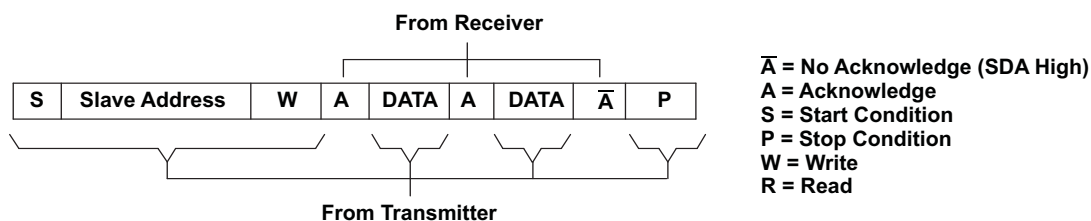
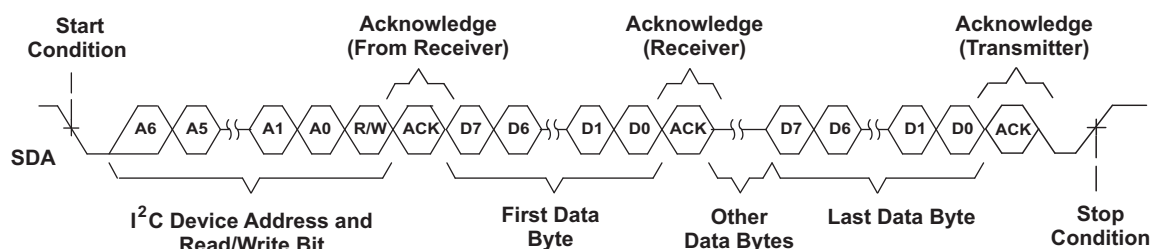
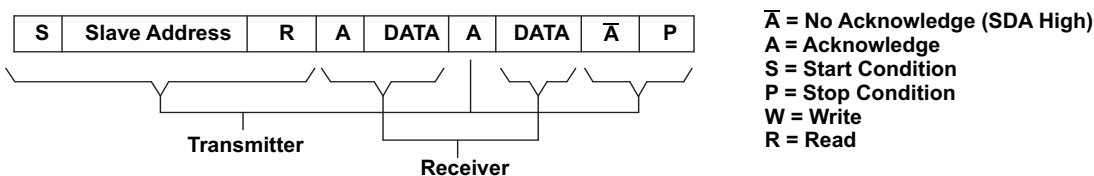
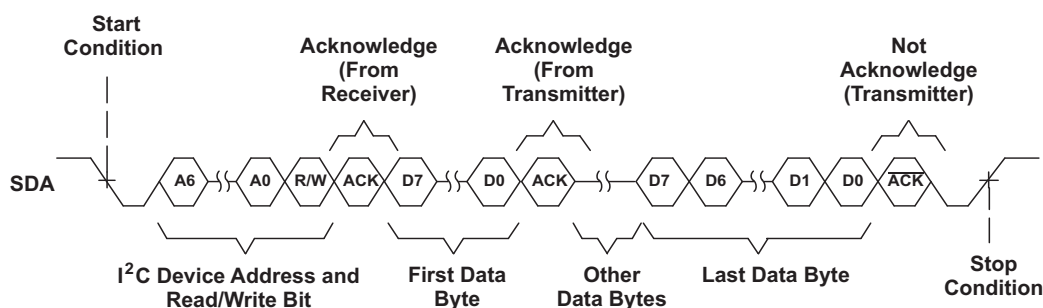

Figure 75. I²C Write Cycle
Figure 76. Multiple Byte Write Transfer
Figure 77. I²C Read Cycle
Figure 78. Multiple Byte Read Transfer
During a write cycle, the transmitting device must not drive the SDA signal line during the acknowledge cycle, so that the receiving device may drive the SDA signal low. After each byte transfer following the address byte, the receiving device pulls the SDA line low for one SCL clock cycle. A stop condition is initiated by the transmitting device after the last byte is transferred. An example of a write cycle can be found in Figure 75 and Figure 76. Note that the THS7303 does not allow multiple write transfers to occur. See the Example: Writing to the THS7303 section for the proper procedure on writing to the THS7303.
During a read cycle, the slave receiver acknowledges the initial address byte if it decodes the address as its address. Following this initial acknowledge by the slave, the master device becomes a receiver and acknowledges data bytes sent by the slave. When the master has received all of the requested data bytes from the slave, the not acknowledge (A) condition is initiated by the master by keeping the SDA signal high just before it asserts the stop condition. This sequence terminates a read cycle, as shown in Figure 77 and Figure 78. Note that the THS7303 does not allow multiple read transfers to occur. See the Example: Reading from the THS7303 section for the proper procedure on reading from the THS7303.
The THS7303 operates using only a single-byte transfer protocol similar to Figure 75 and Figure 77. The internal sub-address registers, and the functionality of each, are found in Table 2. When writing to the device, it is required to send one byte of data to the corresponding internal sub-address. If control of all three channels is desired, then the master must cycle through all the sub-addresses (channels) one at a time; see the Example: Writing to the THS7303 section for the proper procedure of writing to the THS7303.